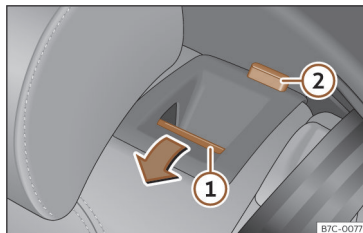

Fig. 100 Rear seat: folding down the backrest.
- Press the unlock button >>> **Fig. 100** ① forwards and at the same time fold the backrest down. The rear seat backrest is not engaged when the red marking of the button ② is visible.